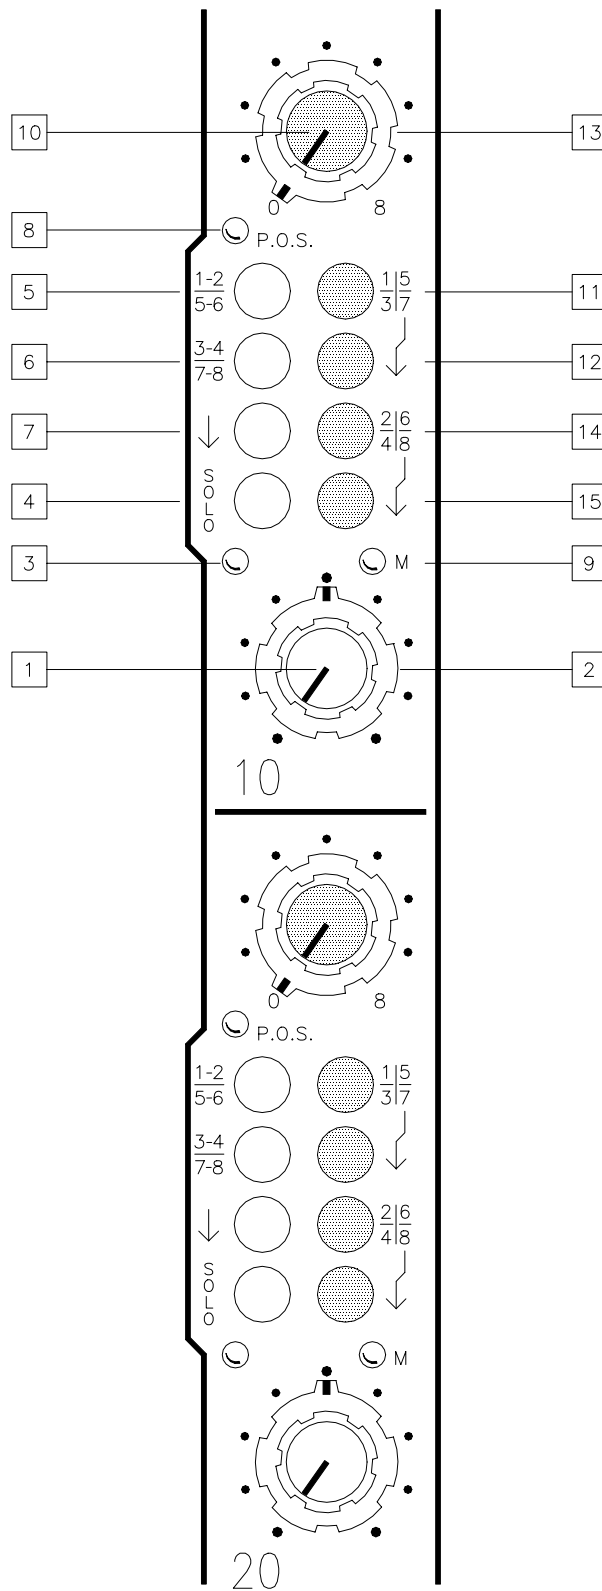

Figure 2. Input Channel
Refer to Figure 2 for location of items 1 thru 15.